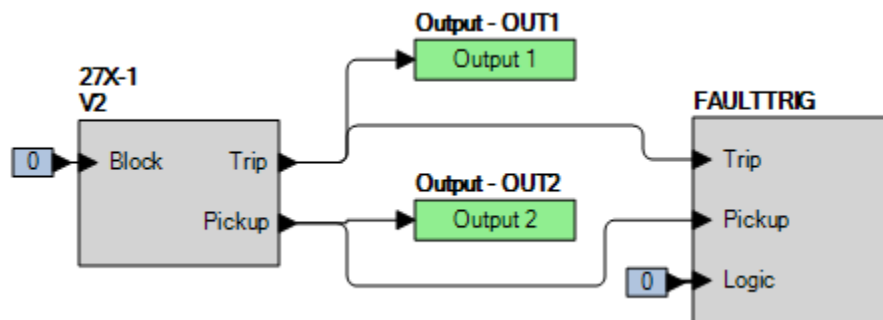

Figure 58-3. BESTlogicPlus Settings (V2 Mode)
- Step 2: Use BESTCOMSP*lus* to configure the BESTlogicP*lus* programmable logic shown in Figure 58-3.
- Step 4: Prepare to monitor the 27X-1 function operation. Operation can be verified by monitoring OUT2 (see Figure 58-3).